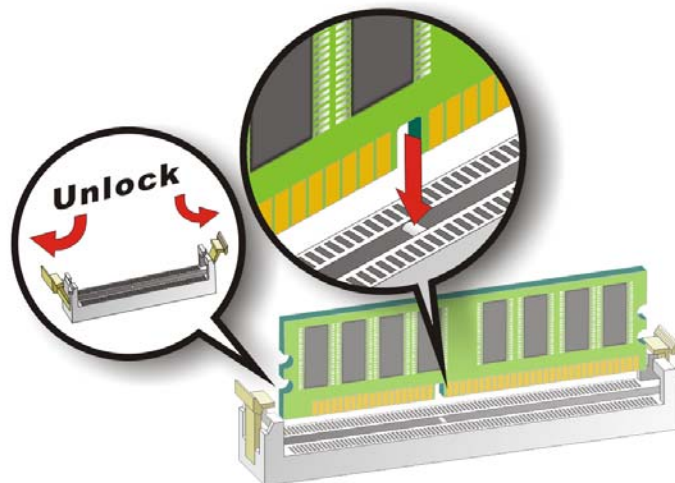

Figure 5-7: Installing the DIMM Module
Step 1: Make sure the two handles of the DIMM socket are in the "open" position, leaning outward (**Figure 5-7**).